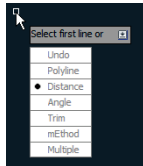

FIGURE 2.26
2. Press the down-arrow key three more times, and press Enter to select the Distance option in the Dynamic Input display (see Figure 2.26). Type **1'** (or **30** for metric), and press Enter twice to input equal first and second distances, which are 1' (or 30 for metric) each.